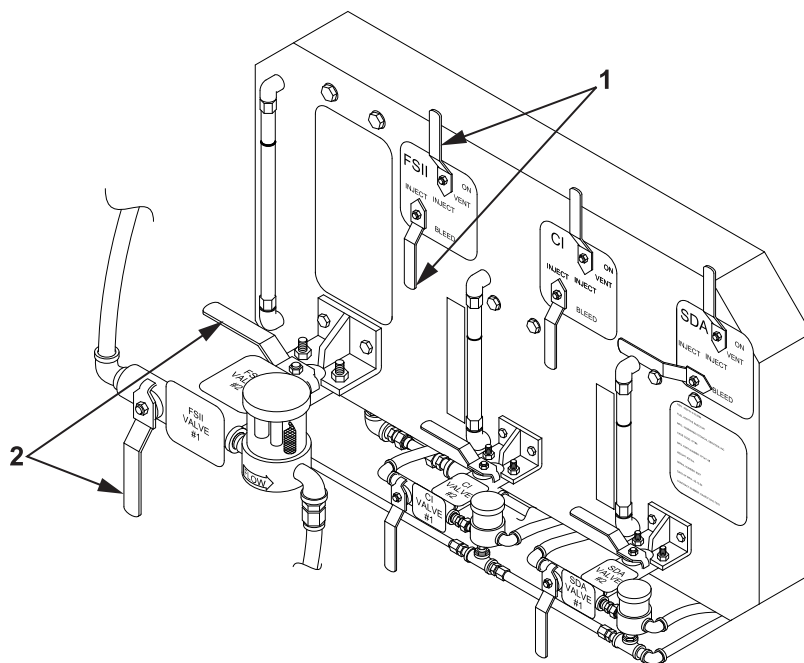

Figure 4. Fuel Additive Injection Assembly Supply Valves.
12. Position the bleed and vent valves (Figure 4, Item 1) to the INJECT position and position FSII VALVE #1 and #2 (Figure 4, Item 2) to the closed position for all three additives.